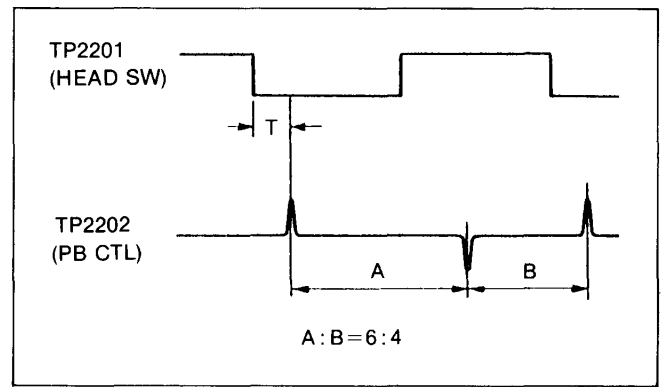

Figure E5
3. Adjust VR2207 for 0.4 +/- 0.4msec as shown in Figure E5.